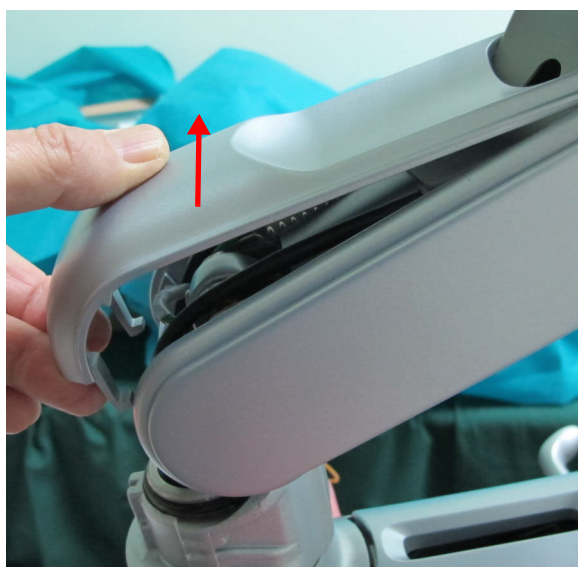

Figure 8-223 Removing Upper Horizontal Articulated Arm Service Cover
- 4.) Unclip the **upper horizontal Articulated Arm Service Cover** by pulling it gently upwards - see Figure 8-223 below.